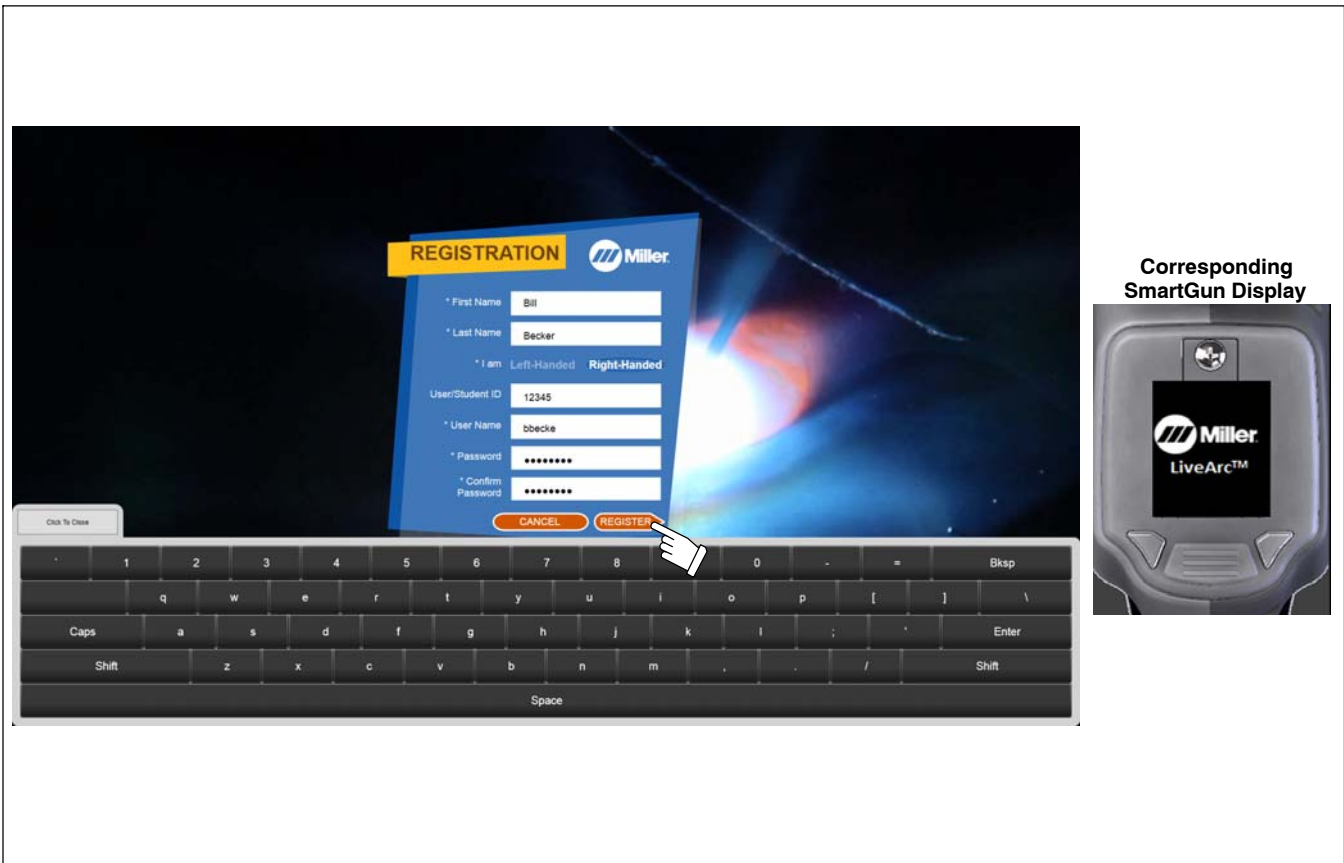

Figure 7-2. Registration Screen
- To create a new account, touch *Register Here* (Figure 7-2). Enter first name, last name, user/student ID (optional), user name, and password in window, and indicate if you are left-handed or right-handed. Touch *Register* to save information, close window, and be automatically logged in.